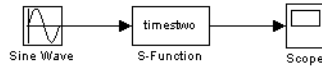

Figure 14-1: targetModel.mdl
In this example, the code is generated from `targetModel.mdl`, a very simple fixed-step model (see Figure 14-1). The resultant program behaves exactly as if it had been built for the generic real-time target.
- 6 Create the model as illustrated in Figure 14-1. Use an S-Function block from the Simulink Functions & Tables library in the Library Browser. Set the solver options to fixed-step and `ode4`.